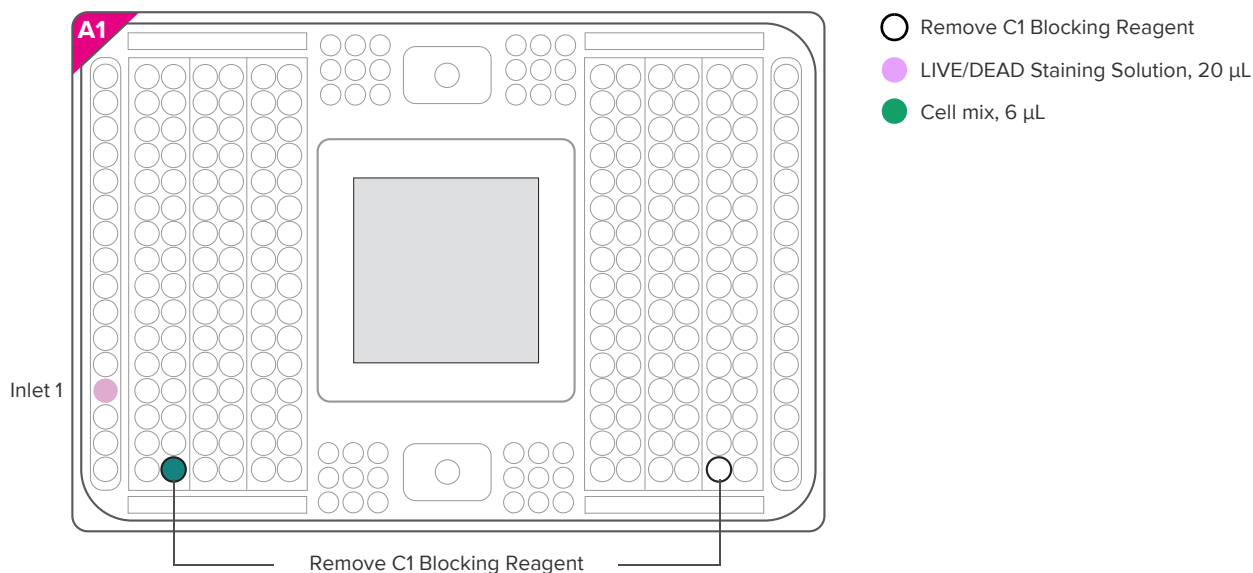

Figure 3. C1 IFC loading pipetting map
- The volume of cell mix may be scaled depending on volume of cells available. You will load 6 μ L of the cell mix into the IFC (see Figure 3).
- 1 Use a pipette and tip to remove blocking solutions from cell inlet and outlet, marked with teal and white dots in Figure 3.